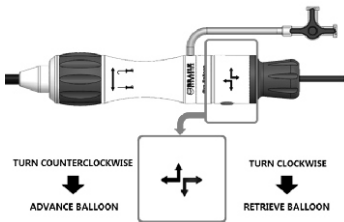

Figure 20:
G.9. Check the integrity of the fine adjustment system: completely rotate the fine adjustment wheel located at the base of the handle, observing the axial displacement of the inflation balloon, and then return the fine adjustment wheel to its initial position. Observe the markings near the fine adjustment wheel to check the correct orientation to rotate, as shown in Figure 20.